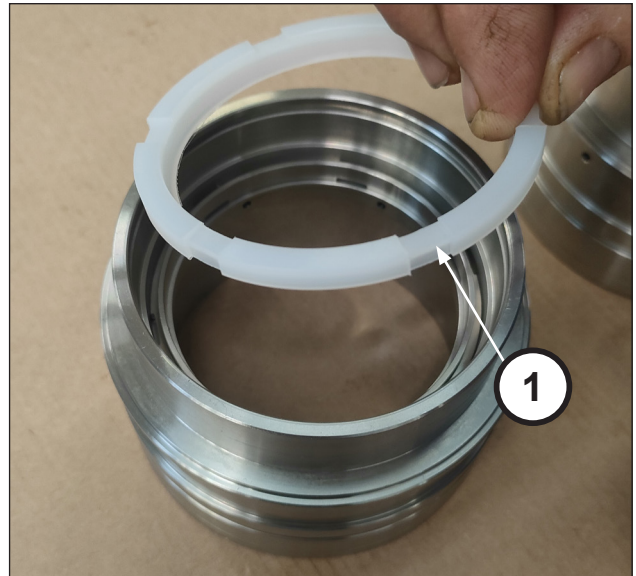
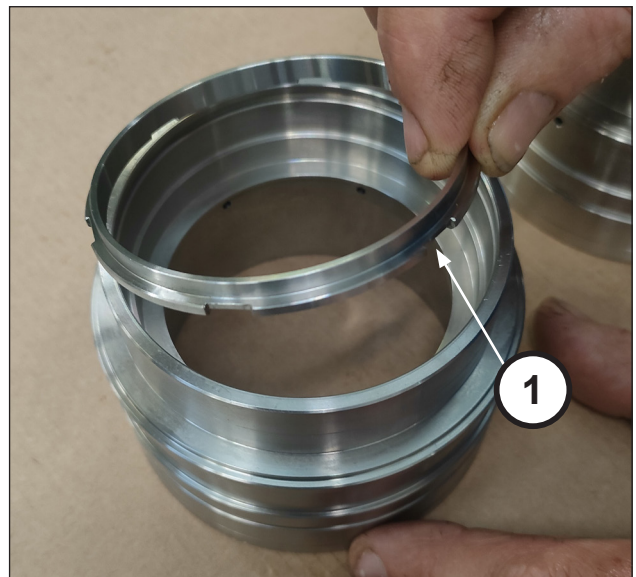

Fig. 146
Fig. 147
Remove the scraper ring (pos. ①, Fig. 146) and the scraper head ring (pos. ①, Fig. 147).